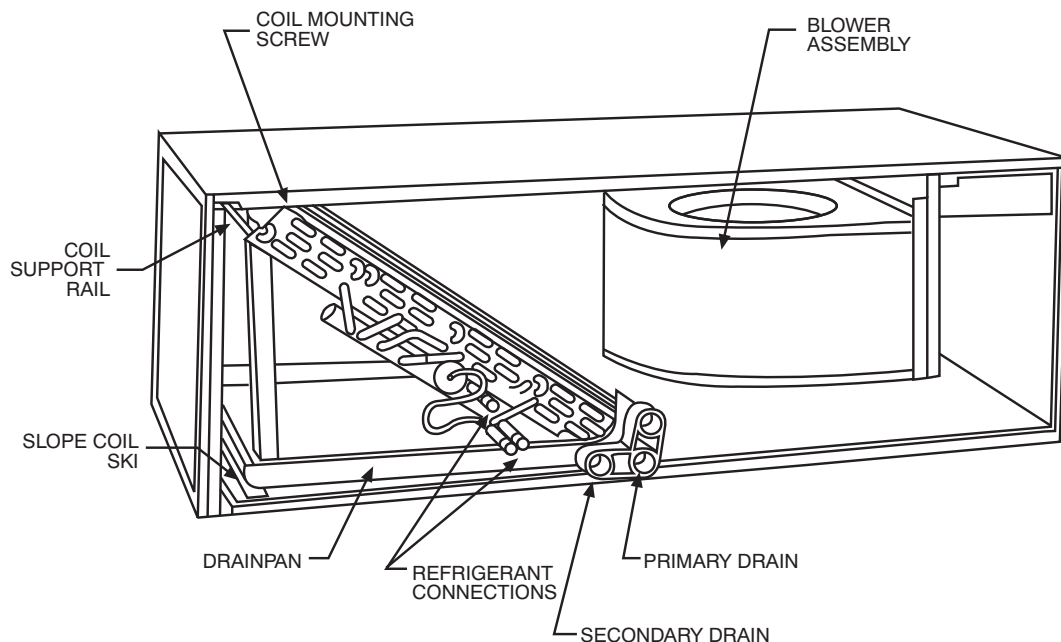

Fig. 6 – Slope Coil in Horizontal–Right Application
1. Remove blower and coil access panels. (See Fig. 6.)
- a. Remove air-seal assembly from coil by removing 4 screws. (See Fig. 6.)
- b. Remove air splitter (B) from coil seal assembly by removing 3 screws. (See Fig. 6-factory-shipped inset.)
- c. Remove filler plate (A) and install air splitter (B) in place of filler plate.
- d. Install filler plate (A) as shown in horizontal right application.
- e. Remove condensate troughs (C) and install on opposite tube sheets.